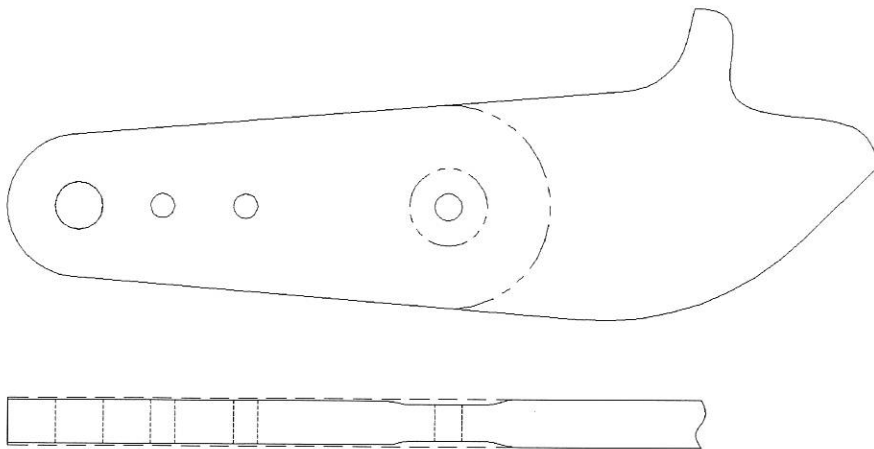
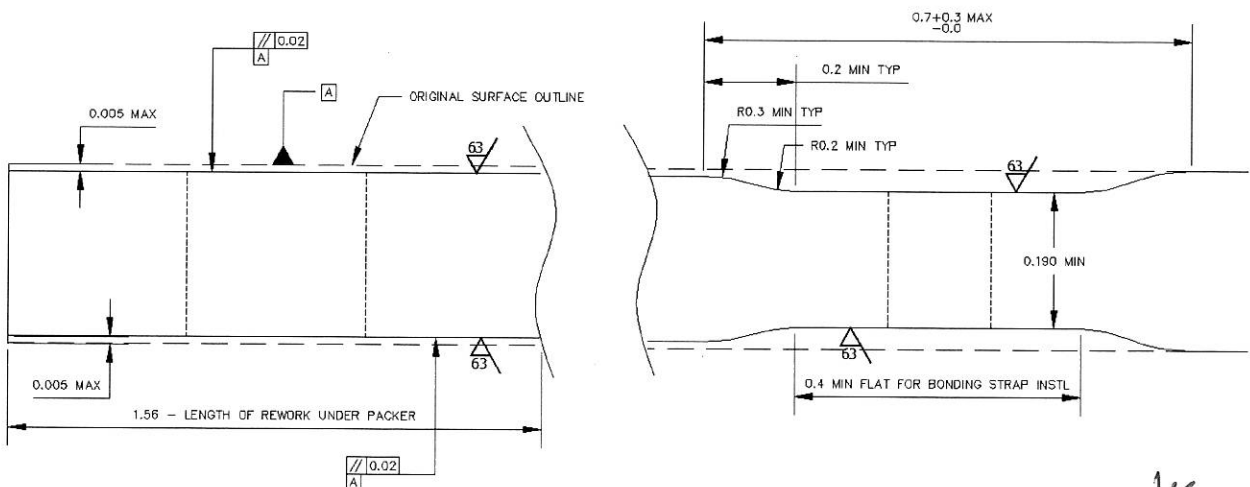

Figure 4 – Arm Rework at Bonding Strap Fastener Hole and under Packers
Figure 5 – Arm Rework at Bonding Strap Fastener Hole and under Packers
- 6.2. If the Packers are removed in Step 5, perform rework to the Arm by blending. Remove a minimum amount of material and satisfactorily eradicate the corrosion on the Arm's faying surface whilst not exceeding a maximum depth of 0.005". Ensure the reworked surfaces remain parallel as shown in Figure 4 and Figure 5 and that the resulting surface finish of the blended area is at least 63 μ m. Ra.